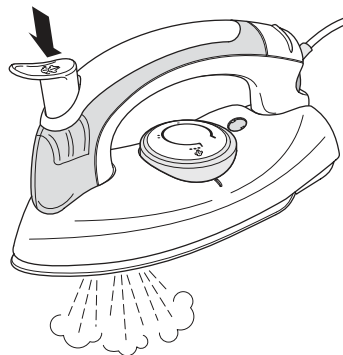

Figure 4
6. While you are ironing you can press the steam button firmly to give a shot of steam (see Figure 4).